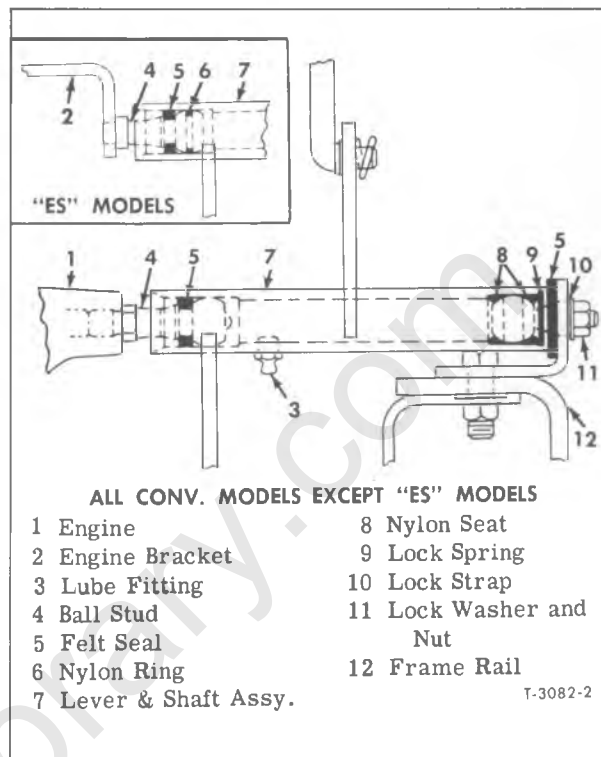

Figure 5—Idler Lever and Shaft Assembly
3. Remove lock washer and nut (11, figure 5) and lock strap (10) from ball stud.
4. Slide the outer end of lever and shaft assembly (7) with ball stud forward and up following the slot in frame bracket.
1. Install felt seal (5, fig. 5) and ball stud (4) on the engine (1) or engine bracket (2).
2. Push the lever and shaft assembly onto the engine mounted ball stud. Position nylon seat (8), lock spring (9) and felt seal (5) on this outer ball stud.
4. Install lock strap (10) and lock washer and nut (11) on outer ball stud.